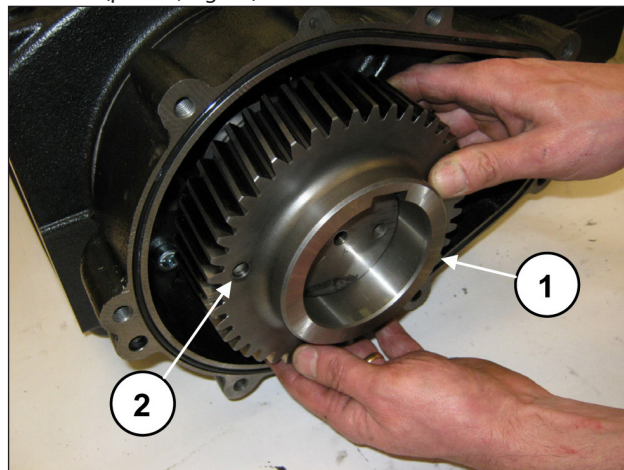

Fig. 14
Remove the ring gear (pos. ①, Fig. 14). If necessary, it is possible to use an extractor hammer to be applied on the 2 M8 holes (pos. ②, Fig. 14).